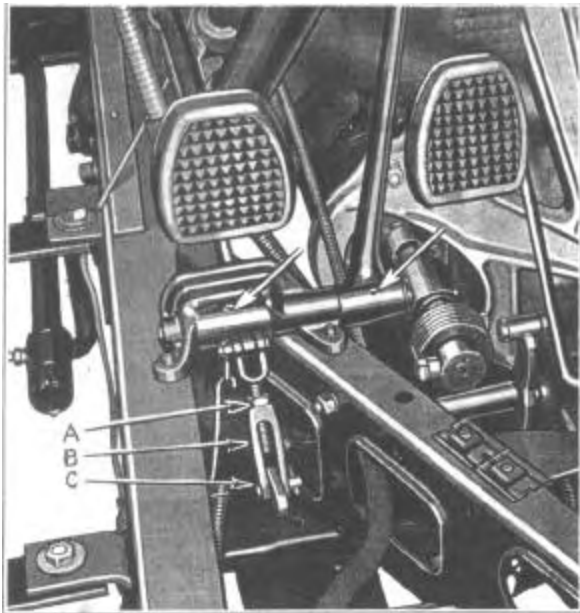

Figure 805—Clutch Linkage-1934-5-6
To adjust: loosen lock nut (A) (Fig. 805 and 806),